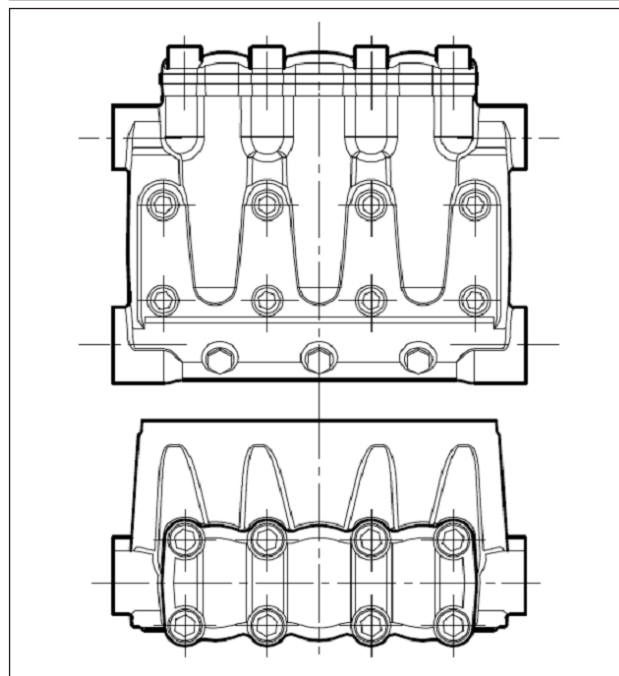

Fig. 34
\*\* The head fixing screws exploded view pos. 39 must be tightened with a torque wrench respecting the order shown in the diagram in Fig. 34.
\*\*\* The valve cover fixing screws exploded view pos. 41 must be tightened with a torque wrench respecting the order shown in the diagram in Fig. 34.